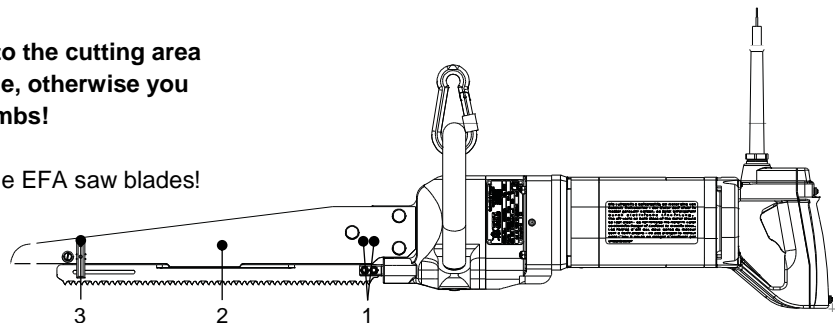

Fig. 7.1 – Saw blade change
Unscrew the two hexagon screws (1) and unhook the saw blade (2) by swivelling to the side by hand, see Fig. 7.1.